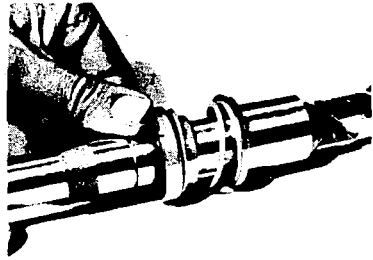

Figure 4
4. Using a rotating motion gently slide the seal subassembly over the shaft (fig. 4). Use care not to cut the flexible diaphragm and drive ring. A piece of shim stock wrapped around the power rotor shaft to cover the snap ring grooves and shoulder of the seal diameter may be used for the purpose. If shim stock is used, twist the seal subassembly in the same direction as the wrap of the shim stock when installing it.